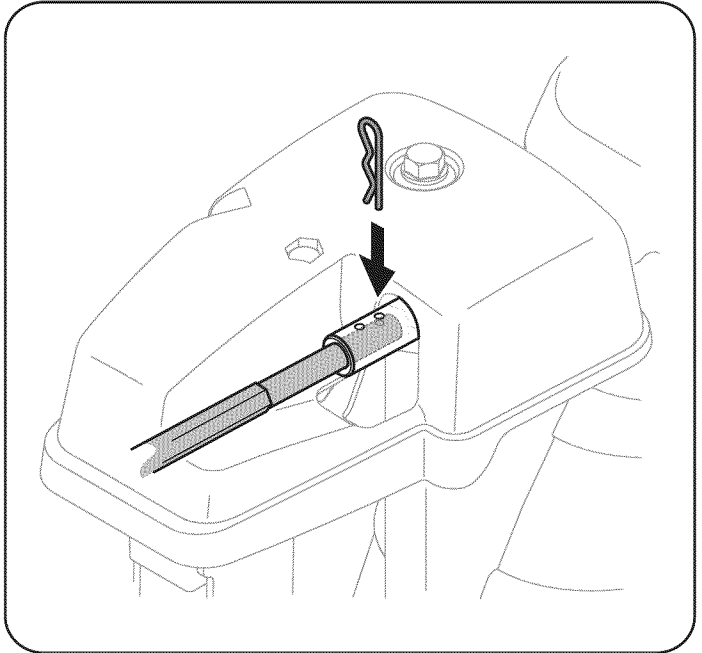

Figure 8
8. Now push the chute control rod back towards the handle panel until the hole in the rod lines up with the hole in the chute control input closest to the chute control head. Insert the cotter pin. See Figure 8.